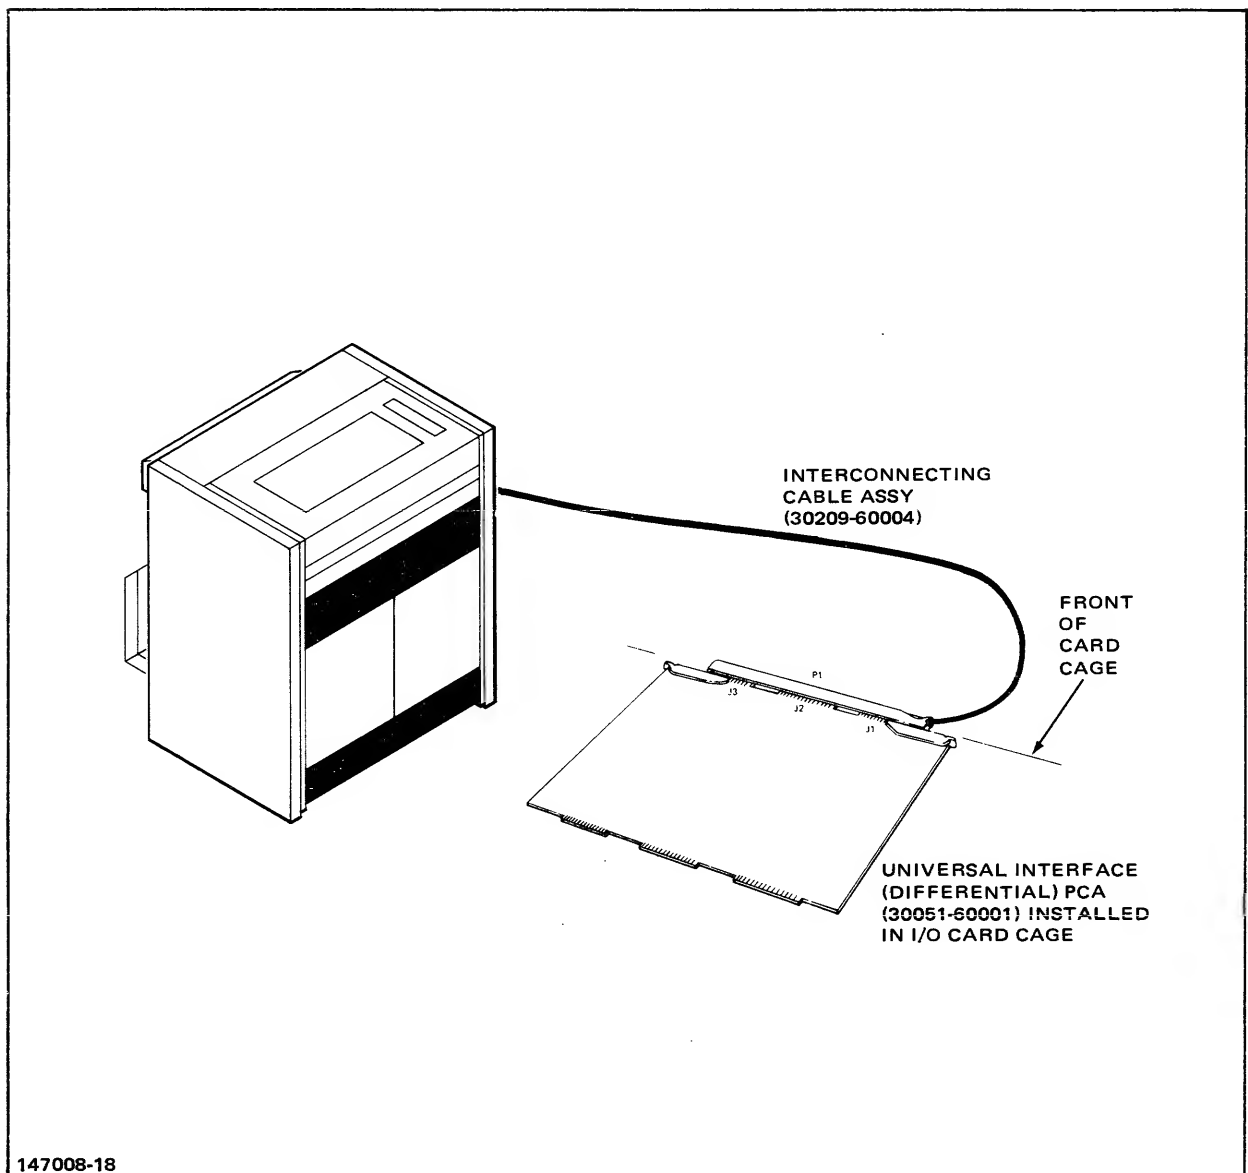

Figure 3-11. HP 2619A Line Printer
1. Connect the interconnecting cable assembly's P1 connector to the interface PCA as shown in figure 3-11.